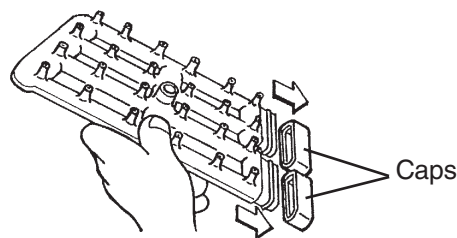

**Fig. 36**
- 6) Lift the ice chute up from the left and right brackets. See Fig. 36.